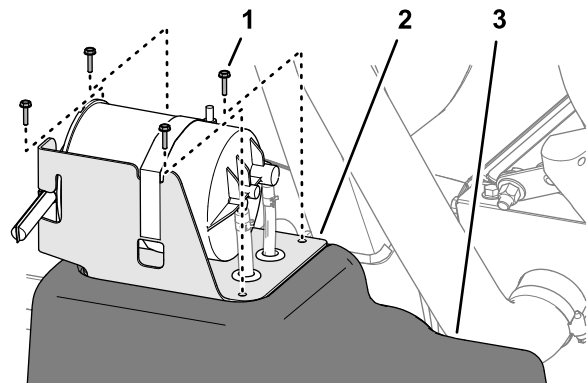

Figure 71
2. At the fuel tank, remove the 4 screws (#10 x 3/4 inch) that secure the carbon-canister bracket to the top of the fuel tank (Figure 71).